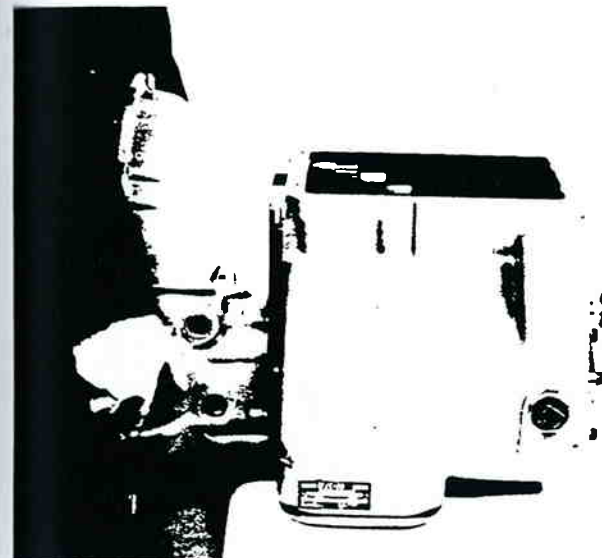

Figure 13-160. Clutch Housing Installation.
2. Place clutch housing in position on the six studs in front of case, piloting on drive gear cover (figure 13-160).